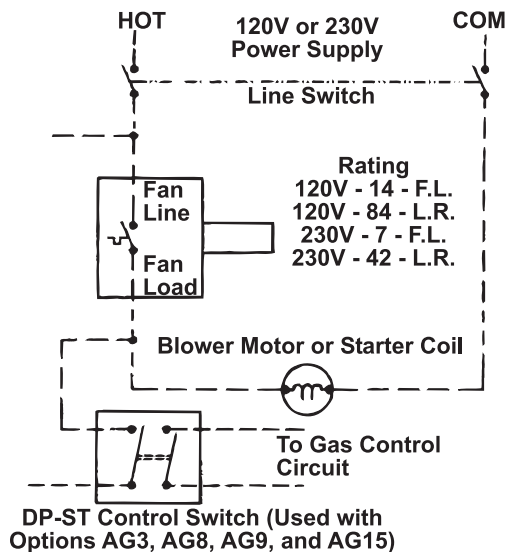

Figure 29. Typical Fan Control Wiring Diagram
- For proper operation, ensure that fan control wiring is in accordance with Figure 29 and the Electrical Connections for Field-Installed Options section.